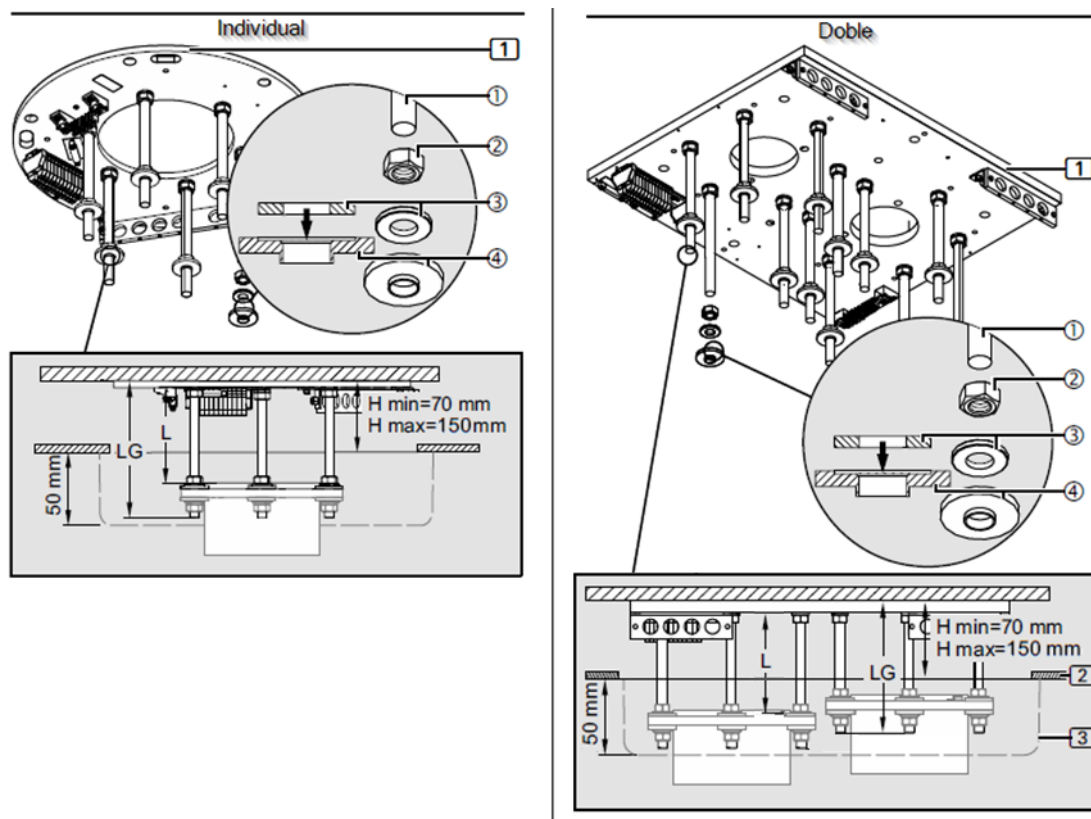

Fig. 10 Installation of the upper insulation to the threaded bolts without false ceilings
- The roof trim (3) will later be mounted flush with the roof and covers the roof pipe flange.
- The required length of the threaded bolts M16 x 315 mm (1) depends on the distance H: from the roof to the lower edge of the intermediate ceiling (2).
- Please note the minimum and maximum length of the threaded bolts M16 x 315 mm (1).
- For the ceiling trim (3), which has a height of 50 mm, the 6/12 M16 x 315 mm threaded bolts (3) must be cut as shown in figure 10.
- To determine the length LG of the threaded bolts (1), $LG=H+135\text{mm}$
- Lightly deburr the M16 x 330 mm threaded bolts (1) to ensure maximum thread engagement in the interface plate (1).
- Thread 1 M16 hex nut (2) each onto the M16 threaded bolts (3) and then fit 1 spring washer (1) each.